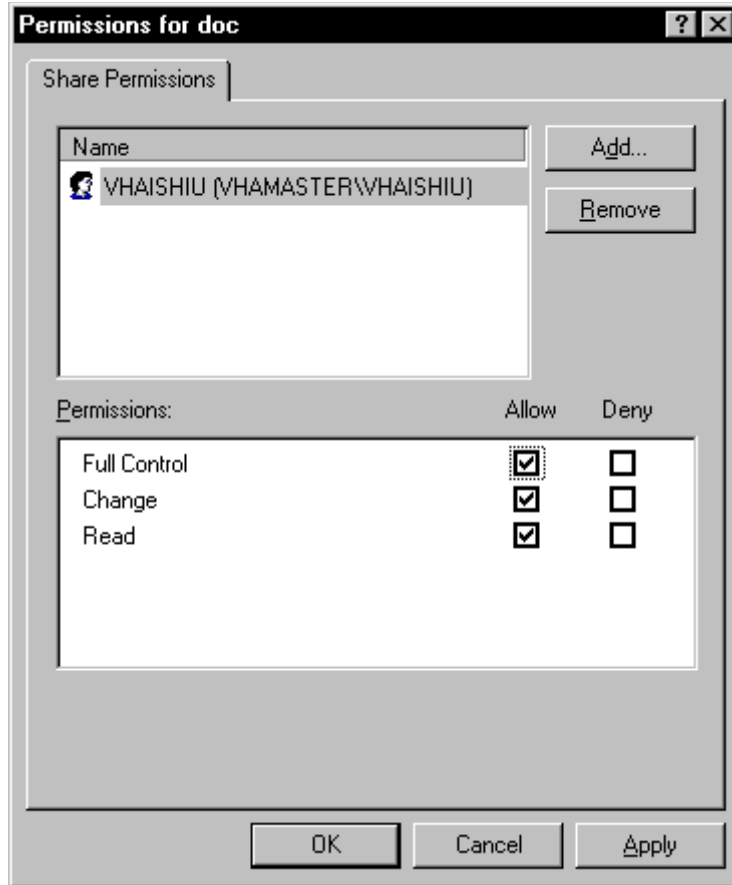

Figure 13-5
8. Make sure the check boxes are selected in the “Allow” column for “Full Control”, “Change” and “Read” (Figure 13-5).